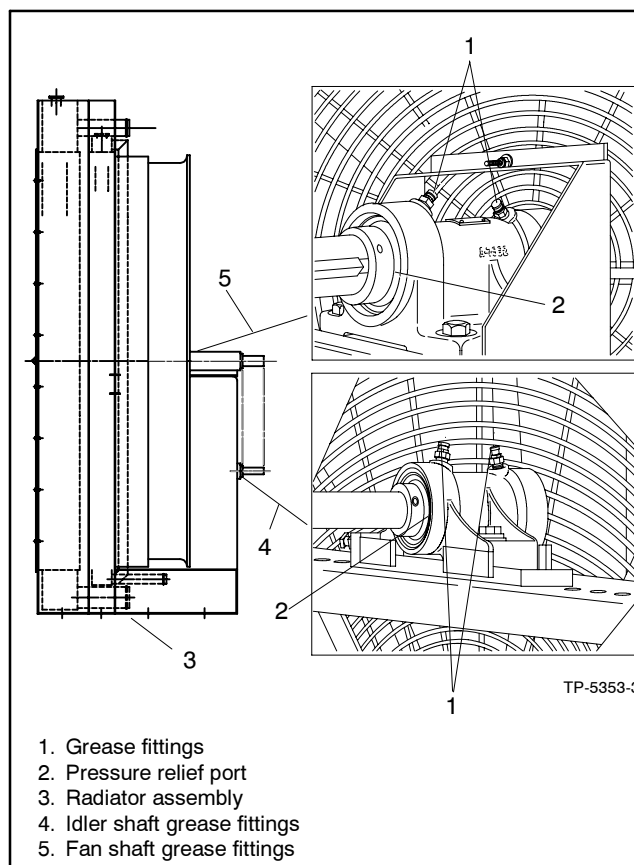

Figure 3-15 Radiator Fan Bearings and Pressure Relief Ports, Typical
4. Inject grease into the two bearings on the fan shaft block and the two bearings on the idler shaft block using a grease gun until a 3–6 mm (0.13–0.25 in.) grease column shows at the bearing pressure relief port. See Figure 3-15.